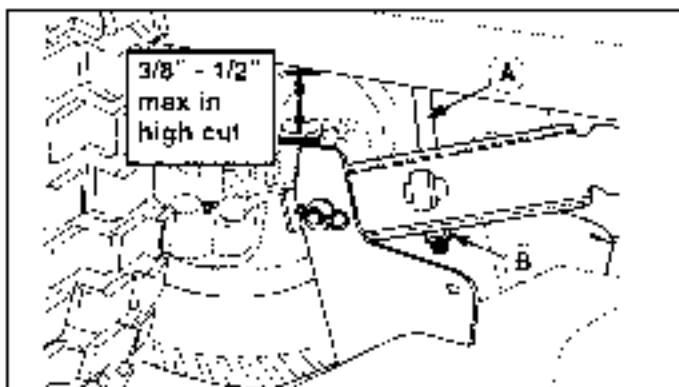

Figure 26. Leveling the Mower Side-to-Side
- Turn the locknut (B, Figure 26) to raise or lower that side of the mower.
NOTE: The maximum the mower can be adjusted in high cut is $3\frac{1}{8}$ " to $1\frac{1}{2}$ " between the frame and mower up-stop (see Figure 26).